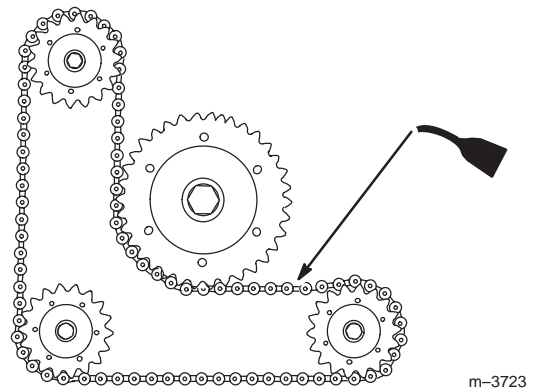

Figure 35
2. Coat the entire chain with oil and allow it to penetrate each roller (Fig. 35).